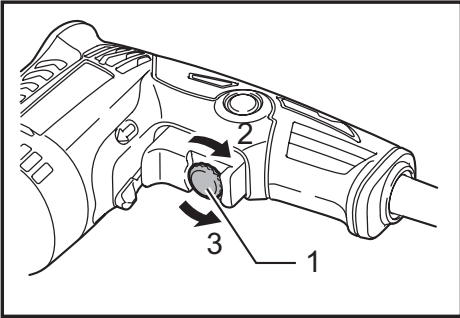

Fig.2
► Fig.2: 1. Speed control screw 2. Higher 3. Lower